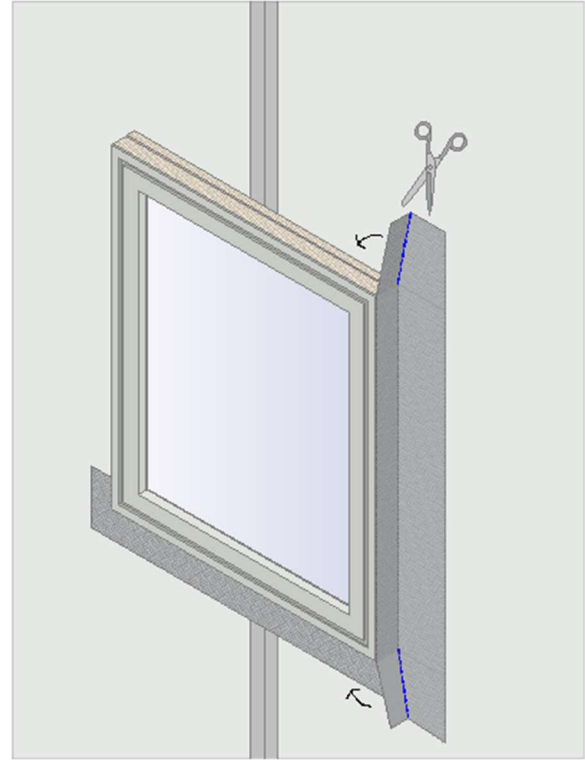

Figure 9
- Cut the un-bonded sections of membrane at each end of the window frame and fold around the head and sill (figure 9).